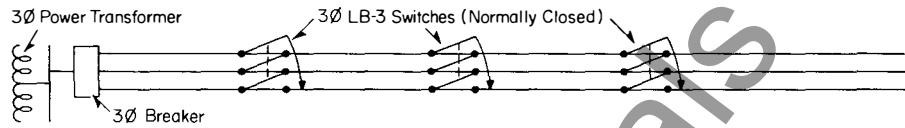

Figure 1
**Line Sectionalizing :** The LB-3 is ideal for use in sectionalizing radial express feeders. Utilities vary sectionalizing point locations between the ranges of one switch per every four spans to one per mile of feeder (Figure 1).